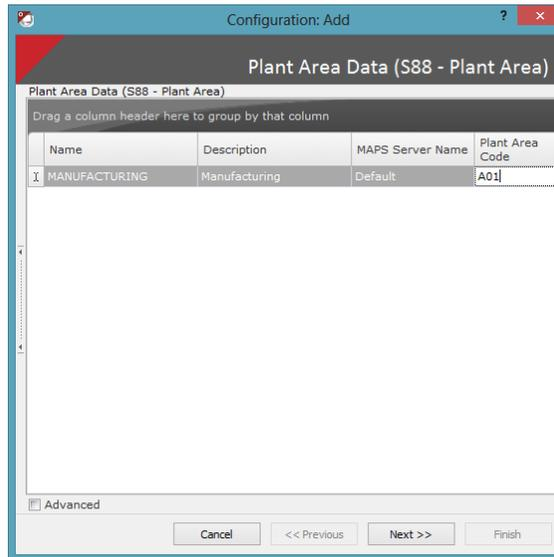

Figure 12 Plant Area Data
3. Add the following Plant Area Data (S88 Plant Area) See Figure 12 below.